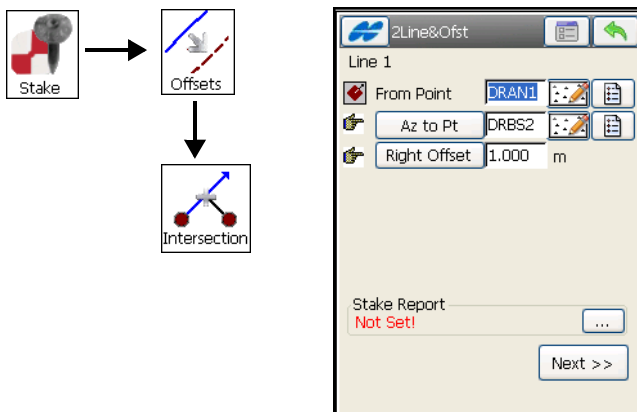

Figure 9-33. Intersection & Offsets – Line 1
1. To stake out Intersection & Offsets, tap **Stake ▶ Offsets ▶ Intersection**. The Stakeout *2Line&Ofst* screen displays (Figure 9-33).
2. On the Stakeout *2Line&Ofst* screen, define the starting point and azimuth for the first known point; specify the horizontal offset to the first parallel line. Tap **Next** (Figure 9-33).